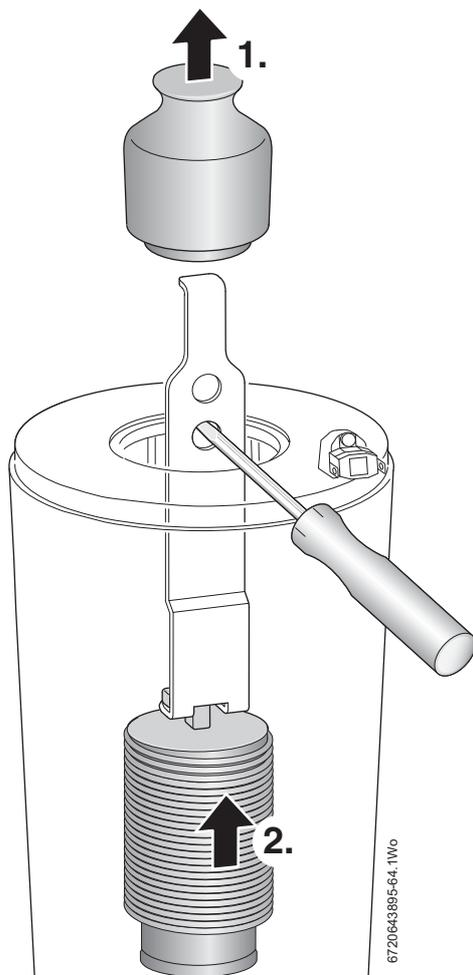

Fig. 90 Baffle removal
Refer to figure 90.
If the lower baffle is stuck, it may be necessary to use the "baffle removal tool" from the heat exchanger cleaning kit - 7 716 192 312, as shown in figure 90.
The baffles (1) and (2) must be refitted into the heat exchanger in the order shown in figure 90. Failure to do so may result in damage to the boiler.